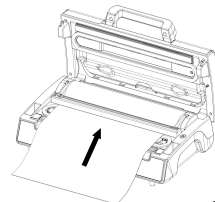

Fig.5
5. Put one end of the bag on top of the sealing Element into the bag fixture - **Fig.5**